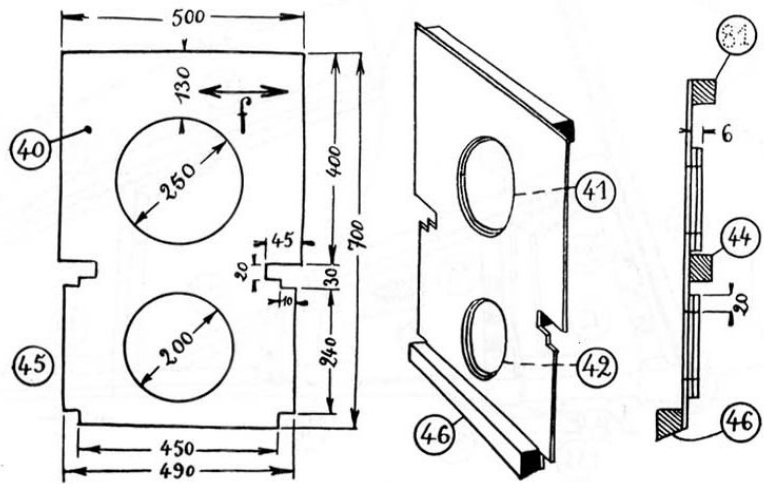

Figure 3.8: Pilot's seat back
The two sides will be joined by the pilot's seat back (40), of 3mm plywood as in fig. 3.8. Holes (41) and (42) are reinforced with plywood rings, and provide access to the luggage compartments.